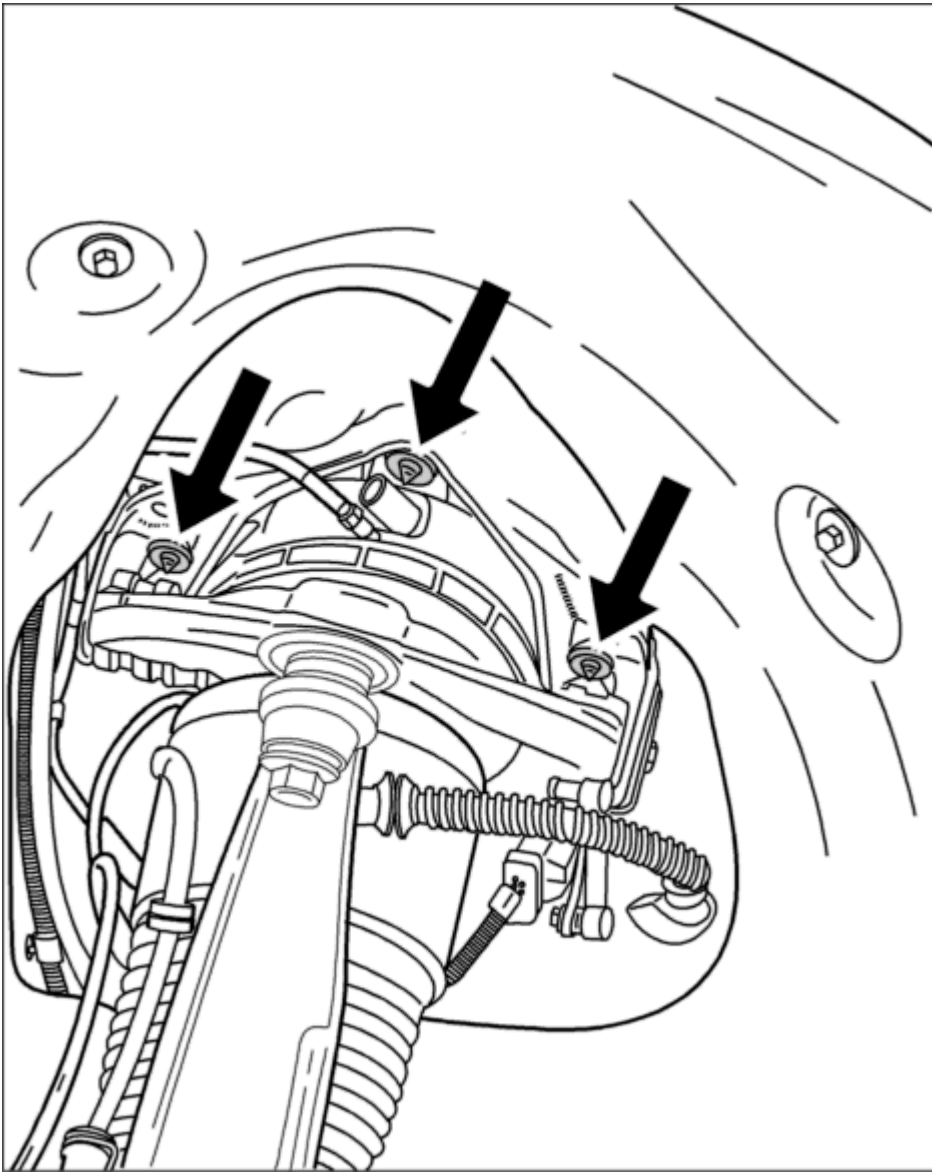

Fig. 93: Removing upper strut fasteners
18. Remove the three mounts for the spring strut in the engine compartment (two mounting points in front of plenum panel and one inside the plenum panel). The three mounting points **-(arrow)-** are shown here from inside the wheel housing (wheel carrier installed). See **Fig. 93**.